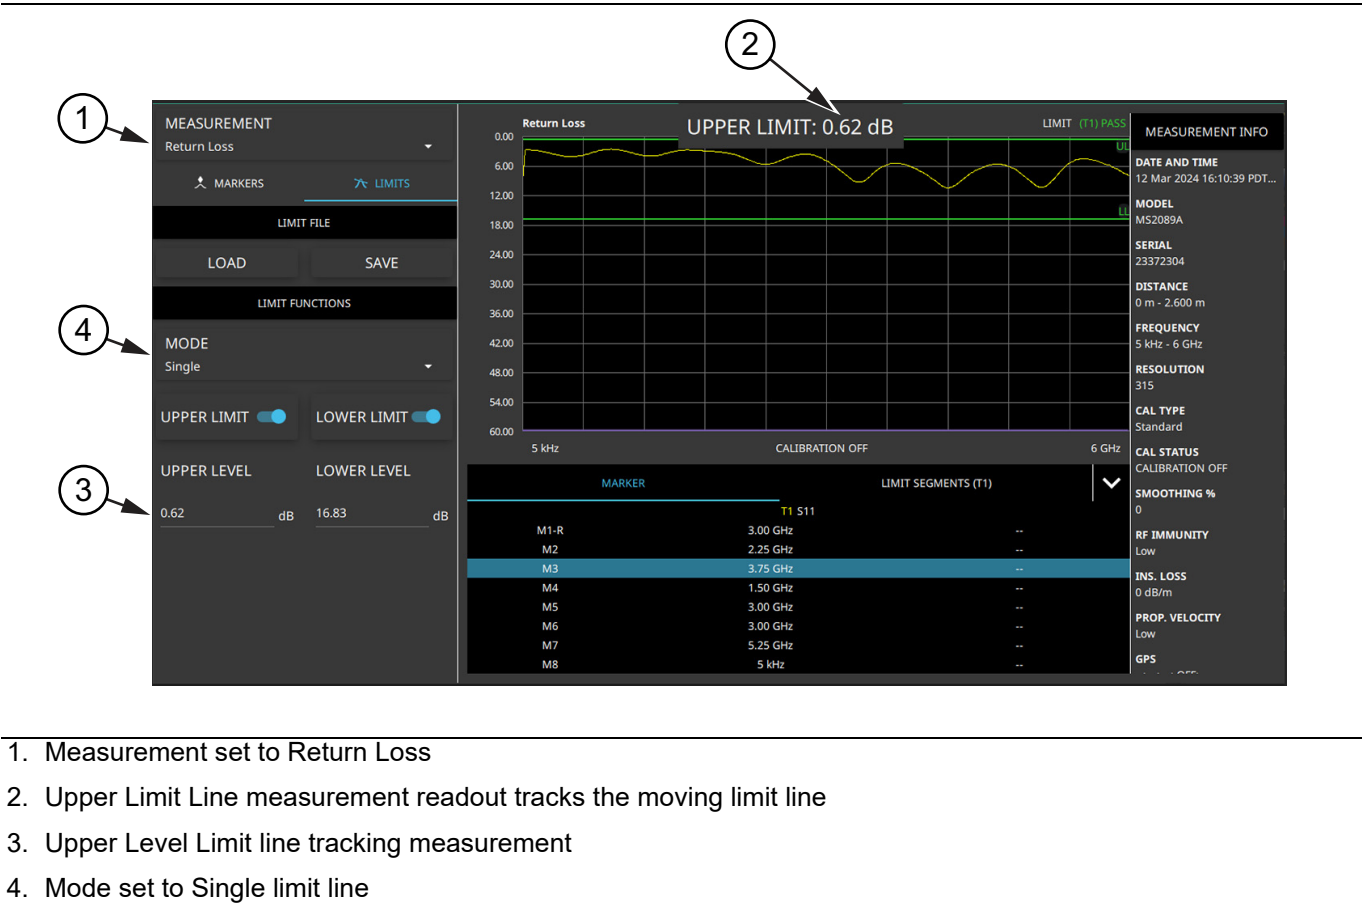

Figure 2-20. Limit Line Measurement Readout
1. Point and drag the limit line up or down to change the power limit value. When moving the line manually, a readout is displayed indicating the limit line measurement location as shown in Figure 2-20